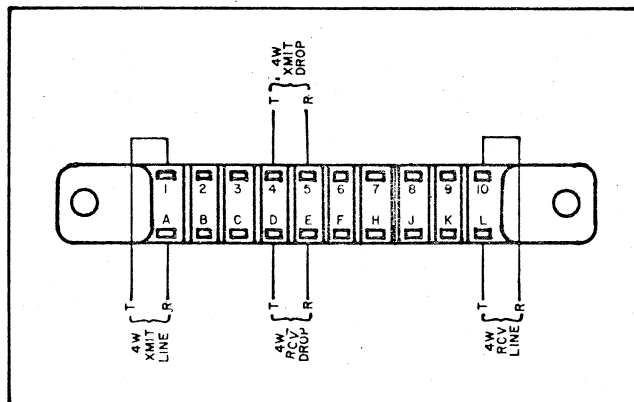
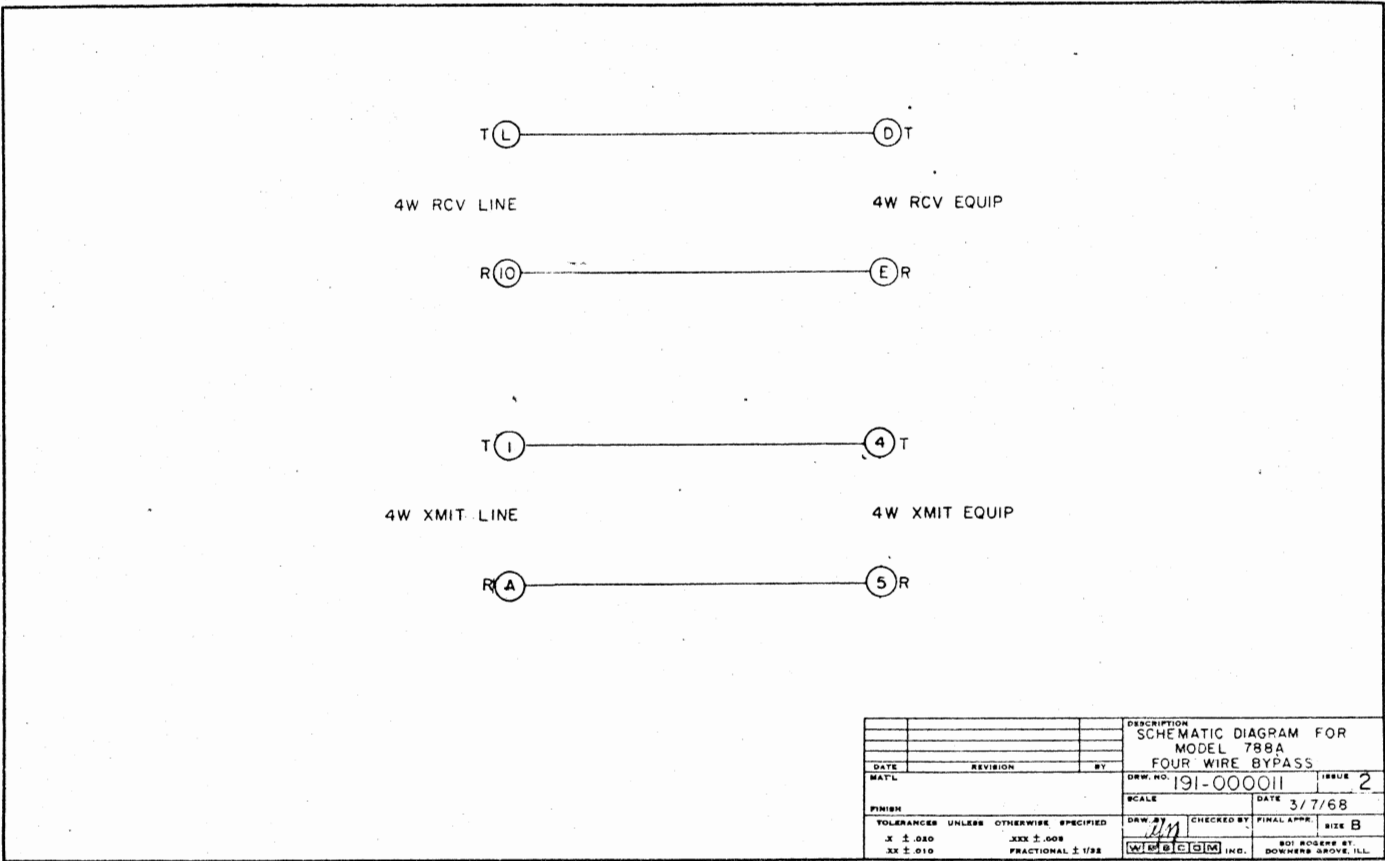

Fig. 6A
Fig. 9A
A. 788A: This is a straight forward 4-wire by-pass card which when inserted into a connector on the terminating shelf loops the 4W RCV LINE to the 2W DROP, now making it the 4W RCV DROP; and the 4W XMIT LINE to the terminals 4 and 5, now making it the 4W XMIT DROP. See FIG. 6A and TABLE B for wiring information and FIG. 9A (schematic drawing).
B. 788B: This is the same as the 788A except that it includes plug in 89 type pads for setting the 4-wire levels. See FIG. 6A and TABLE B for wiring information and FIG. 9B (schematic drawing). Also refer to paragraph 4.01 regarding procedure for inserting 89 type pads.
C. 788C: This is the same as the 788A except that it includes adjustable T pads for setting the 4-wire levels. See FIG. 6A and TABLE B for wiring information and FIG. 9C (schematic drawing). Also refer to paragraph 4.02 for setting the pad values.